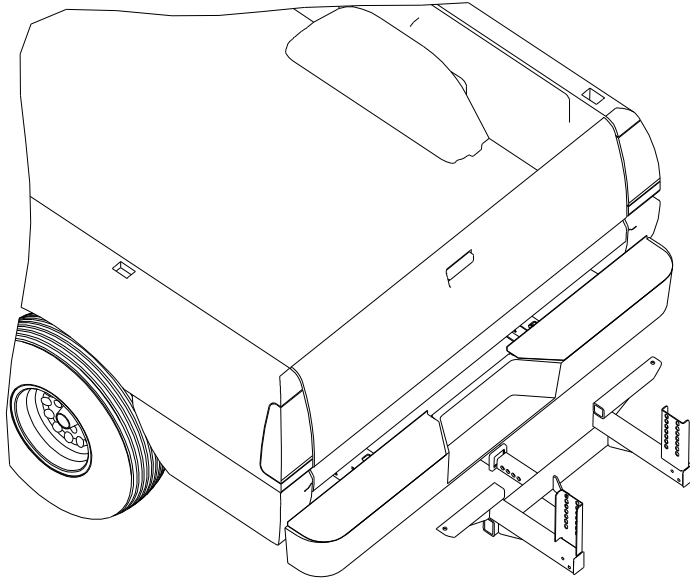

Fig. 1
1. Slide frame #3015859 into hitch receiver. Fig.1.